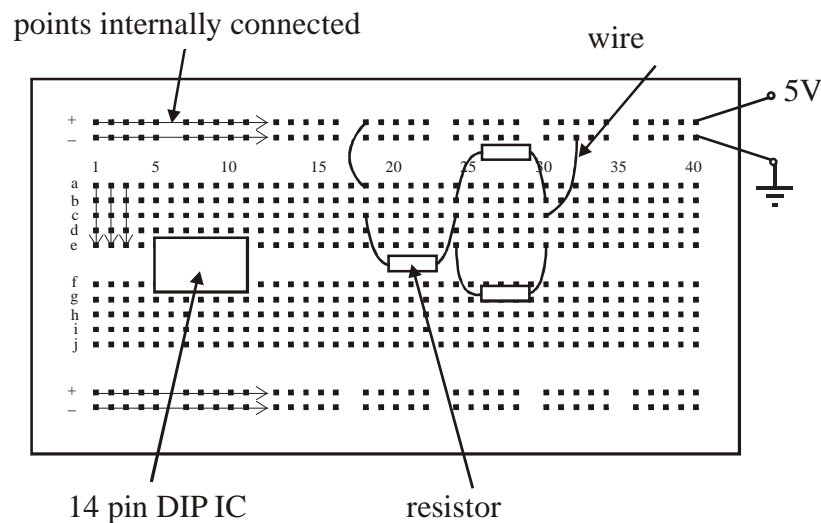
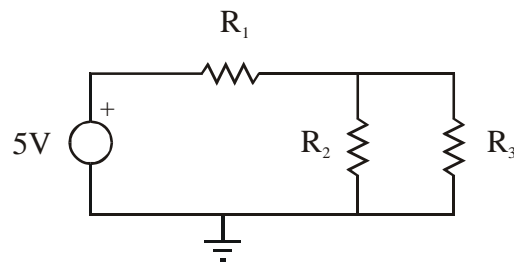
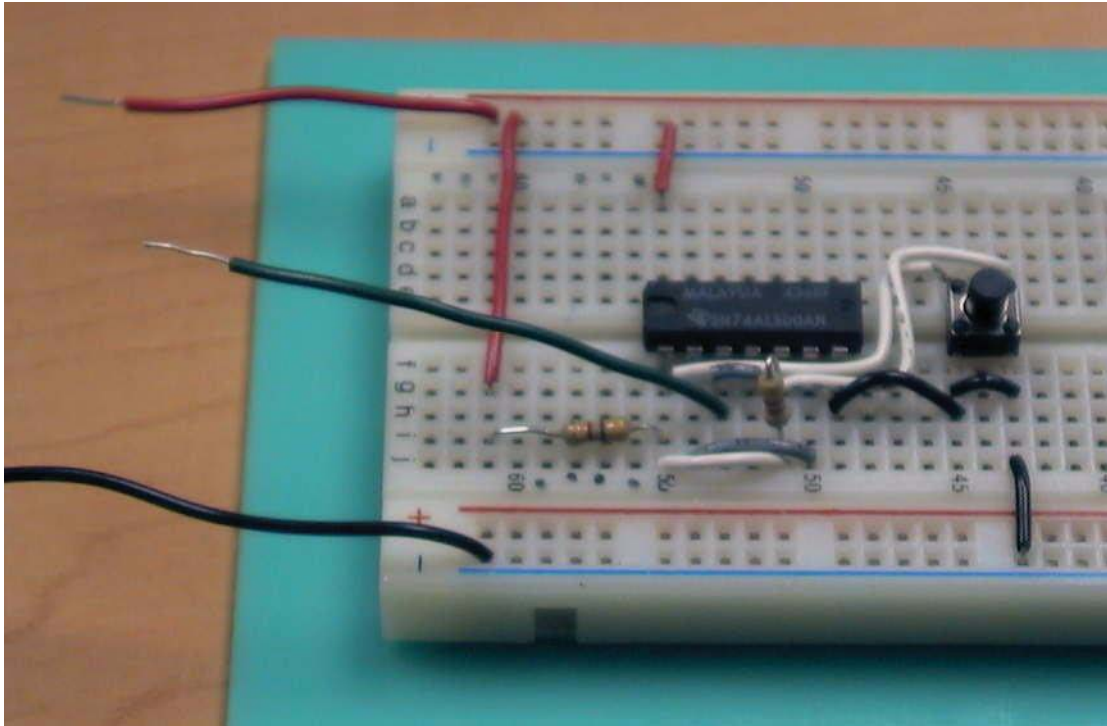

Figure 1.2 Breadboard
Figure 1.3 Example resistor circuit schematic
Figure 1.4 Example Breadboard Circuit
A breadboard is a convenient device for prototyping electrical and electronic circuits in a form that can be easily tested and changed. Figure 1.2 illustrates a typical breadboard layout consisting of a rectangular matrix of insertion points spaced 0.1 in apart. As shown in the figure, each column a through e, and f through j, is internally connected, respectively. The + and - rows that lie along the top and bottom edges of the breadboard are also internally connected to provide convenient DC voltage and ground busses for connecting to specific insertion points. As illustrated in the figure, integrated circuits (IC) are usually inserted across the gap between columns a through e, and f through j. A 14-pin dual in-line package (DIP) IC is shown here. When the IC is placed across the gap, each pin of the IC is connected to a separate numbered column, making it easy to make connections to and from the IC. The figure also shows an example of how to construct a simple resistor circuit. The schematic for this circuit is shown in Figure 1.3. Figure 1.4 shows an example of a wired breadboard including resistors, an integrated circuit, and a push-button switch. Generally, it is a good practice to keep wires and component leads as short as possible to keep everything neat and to prevent possible shorting between components; however, since you will be using your kit components throughout the semester, you should leave them untrimmed. Shorter leads can sometimes be limiting if you need to re-use the components in other circuits in the future.